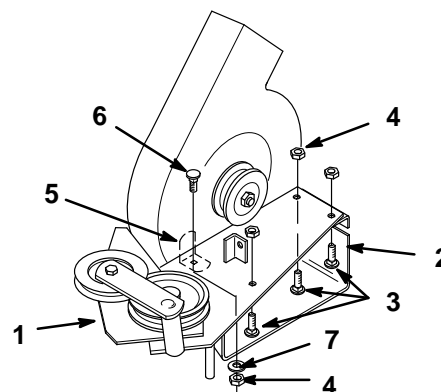

Figure 9
1. Assemble blower mounting plate to blower with (3) 5/16 x 3/4" (19 mm) carriage bolts and 5/16" flange nuts (Fig. 9).
2. In the front inside hole of the blower insert a 5/16 x 7/8" (22 mm) carriage head bolt, item 6 (Fig. 9).
3. Inside the blower housing, slide the L-bracket over the bolt. Hold the L-bracket tight against the blower housing wall and secure with 5/16" washer and 5/16" flange nut (Fig. 9).